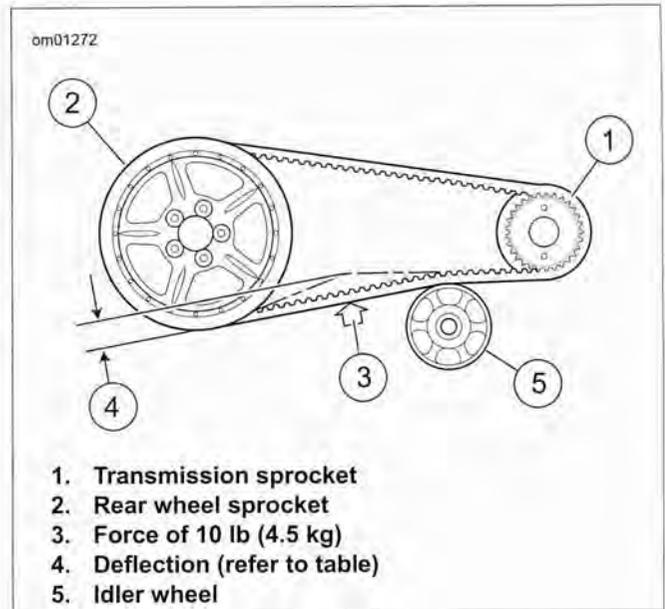

Figure 1-49. Gauging Belt Deflection: XR 1200X
- b. **XR 1200X:** See Figure 1-49. Fit the tension gauge half-way between the idler wheel and rear sprocket.